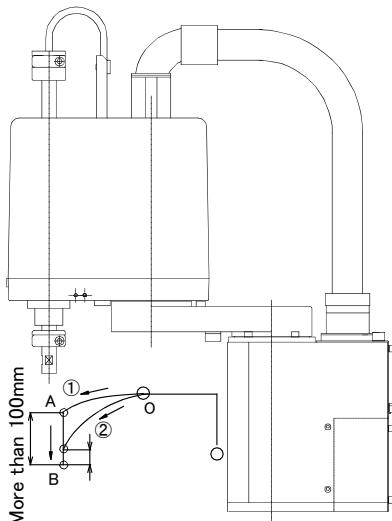

Fig.2-6 : Recommended path when positioning at the bottom edge of the Z axis
- 3) When positioning the work near the bottom edge of the Z axis, if no effectiveness is achieved in step "2)" above, perform operation ① (robot path: O → A → C). In the case of operation ② (robot path: O → B → C), residual vibration may occur. (Refer to Fig. 2-6.)